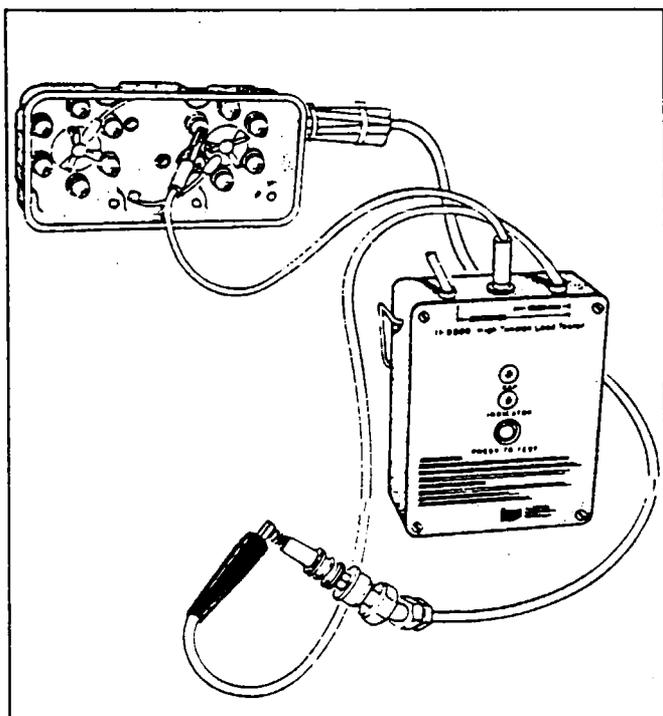

Figure 74-10. Checking Harness Lead Continuity
- A. Connect black test lead to contact spring and red lead to eyelet of the same lead. ( Refer to Figure 74-10. )